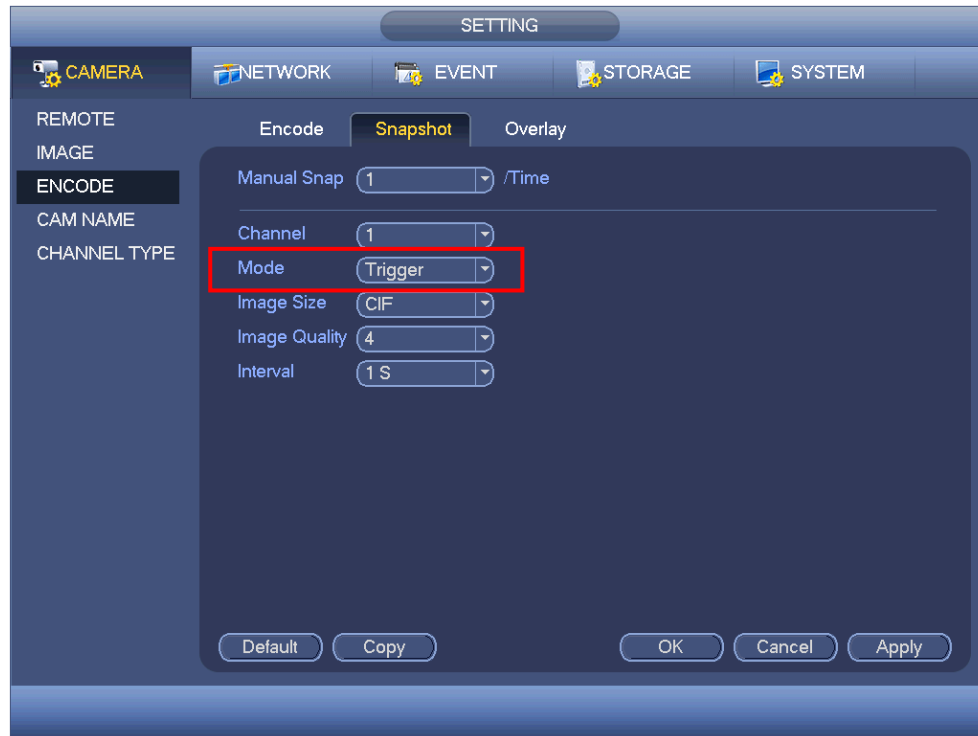

Figure 4-134
- In main menu, from Setting->Camera->Encode->Snapshot interface, here you can input snapshot mode as trigger, size, quality and frequency. See Figure 4-134.